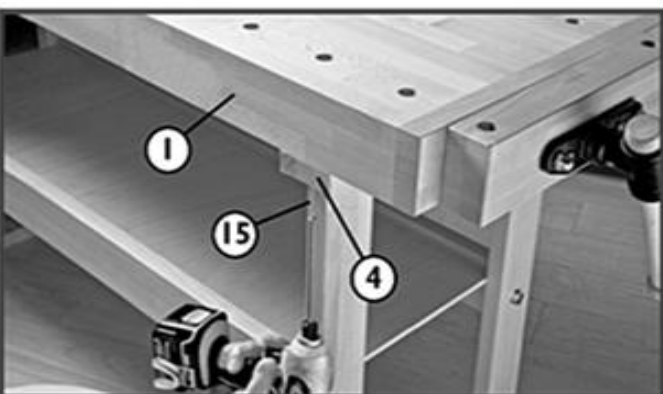

Fig. 5
5. Place the Bench Top (1) so it rests in place on the two leg assemblies. Attach to the Top Rail Supports (4) with four Wood screws 5x50mm (15), one in each corner (**Fig. 5**).